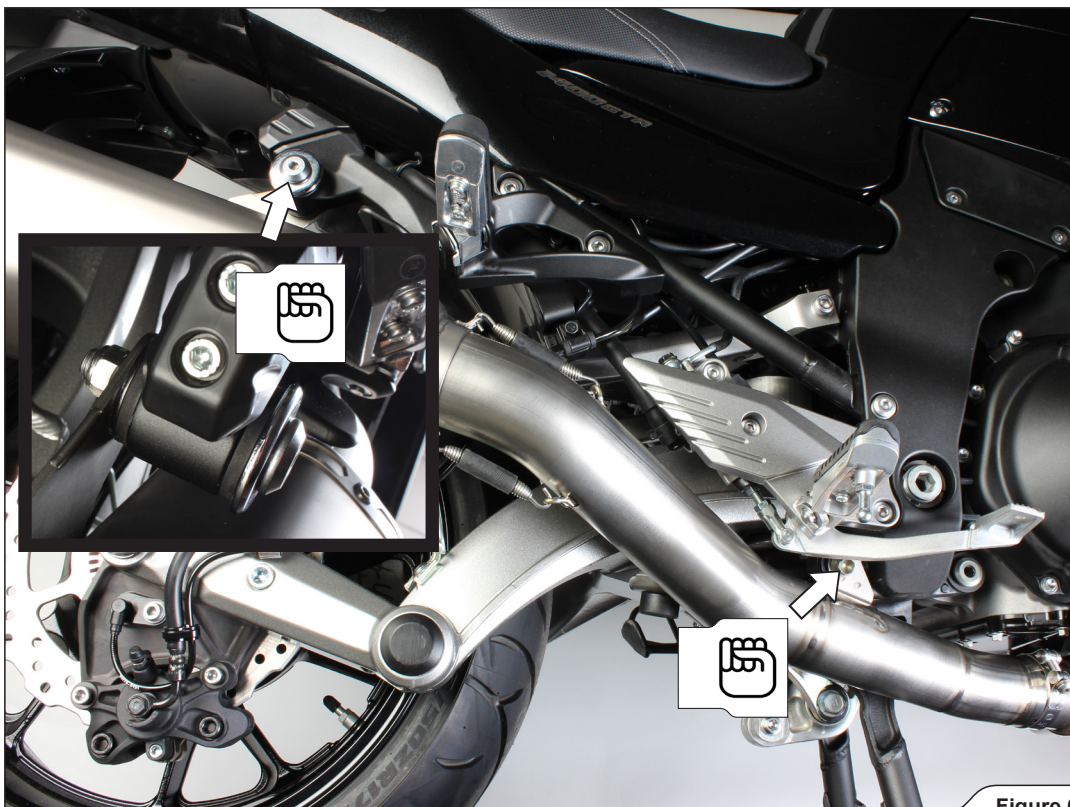

Figure 6
3. Position the muffler with link pipe correctly and slide them on to the stock collector outlet. Hand tighten the muffler's bracket and link pipe's bracket, using stock bolts, washers and nuts (**Figure 6**).